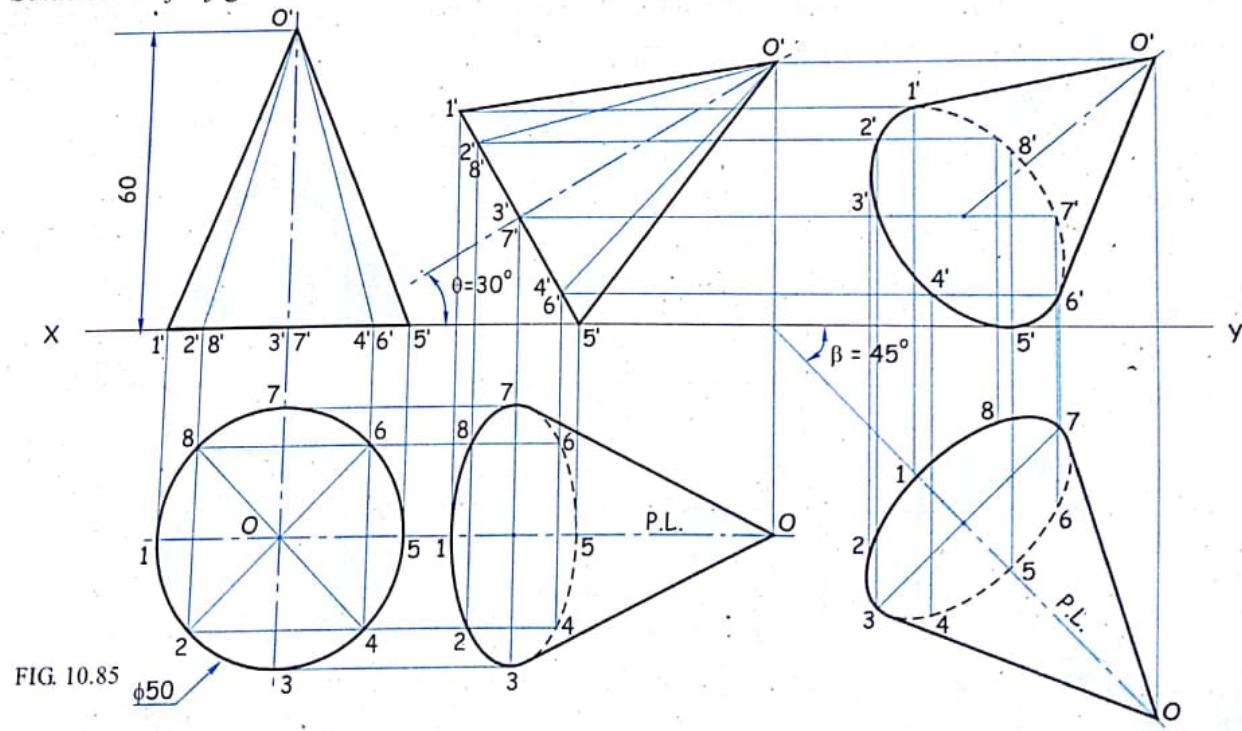

FIG. 10.85
**Solution :** Refer figure 10.85. It is self explanatory.